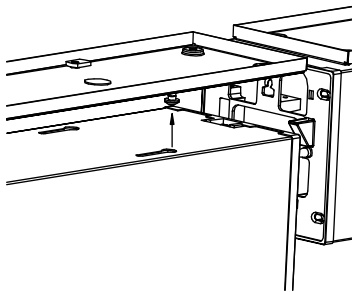

Figure 5
- A. Lift the fixture so that the mounting screws go into the keyhole. Note that the fixture will only slide in one direction, so the fixture might have to be rotated to get the screws in the keyhole. (Fig. 5)